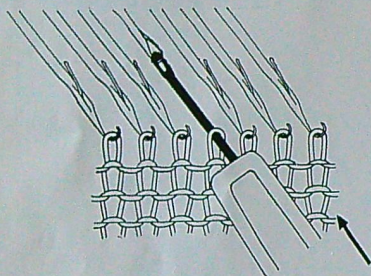

Fig. 28
- (2) Without releasing the transfer tool from the hook of the needles, push the needle all the way back until the stitch is transferred onto the transfer tool. (See Fig. 28)
- (3) Raise the transfer tool with the stitch on it and transfer it to the adjacent needle as shown by arrow.